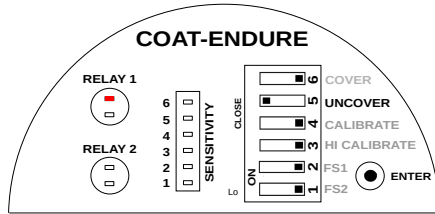

Figure 20: Uncover Switch Position
2. Set the UNCOVER switch to CLOSE (Opposite of OPEN in a DIP switch) position as shown in Figure 20.